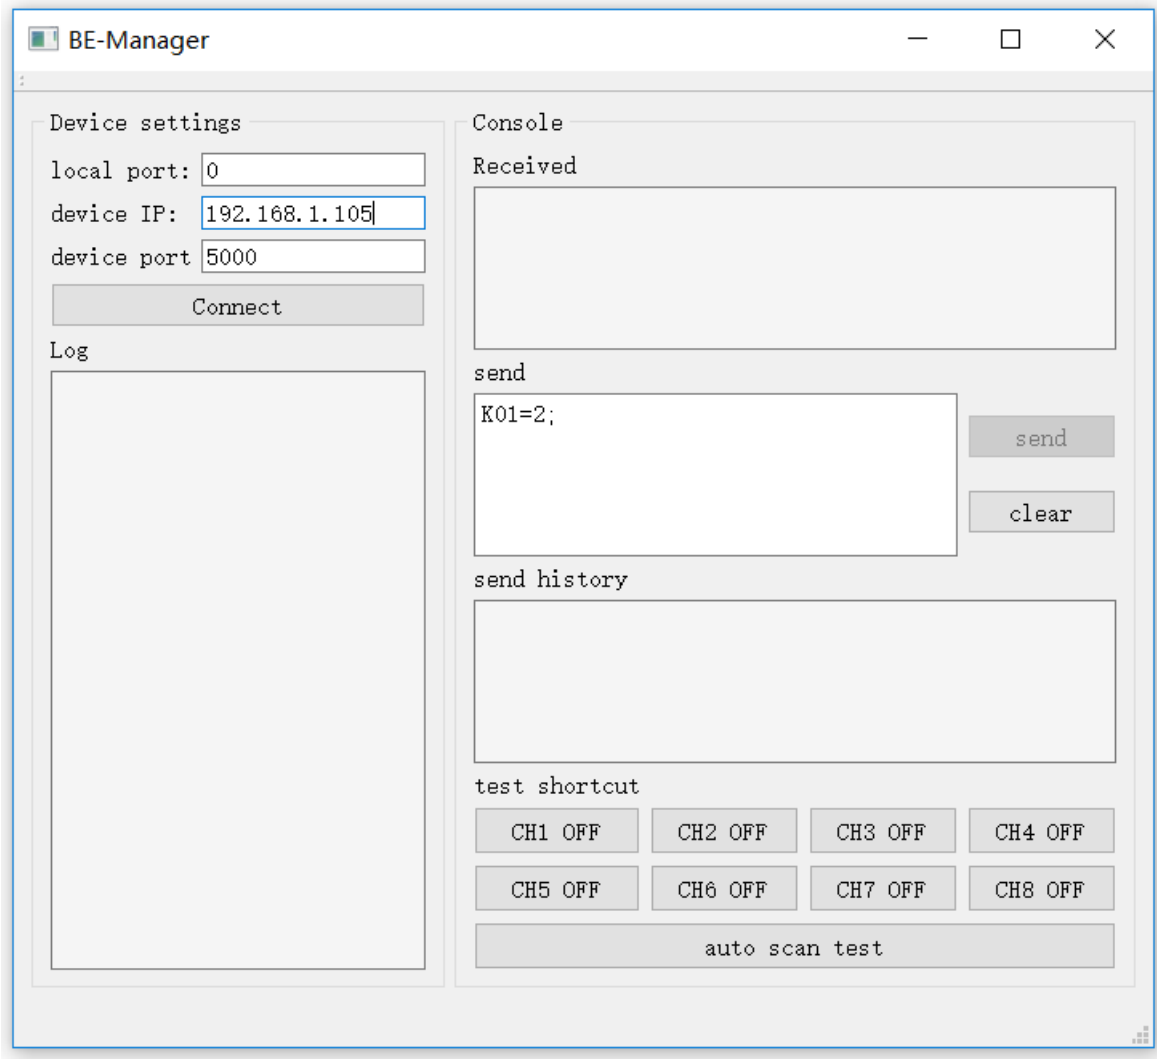

Fig.1.2
2. Open any TCP test tool (if you don't have any, or you don't know what a TCP test tool is, you can use **BE-Manager**, it is within our software package). Open it and see the following **Fig.1.2**: